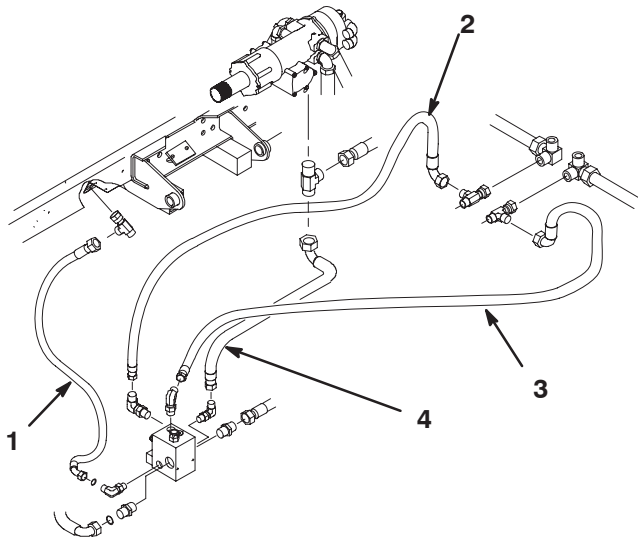
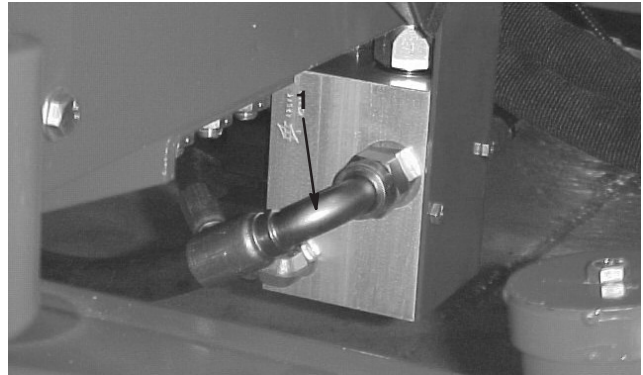

Figure 14
Figure 16
17. Install the remaining hoses positioning as shown in figures 14 & 15 Use figures 16 –21 for reference during installation.